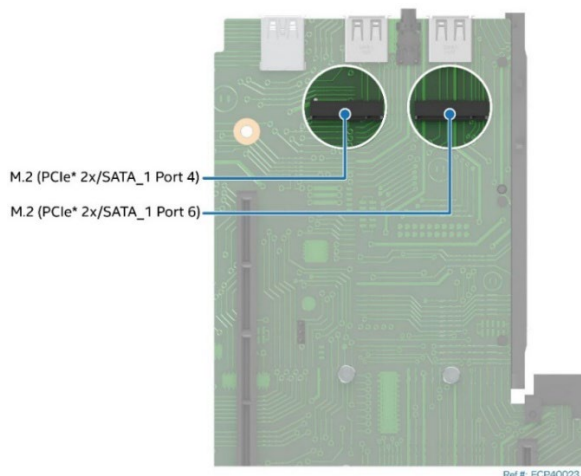

Figure 60. M.2 SSD Connector Location
5. Locate the M.2 connectors towards the back edge of the server board (see Figure 60).